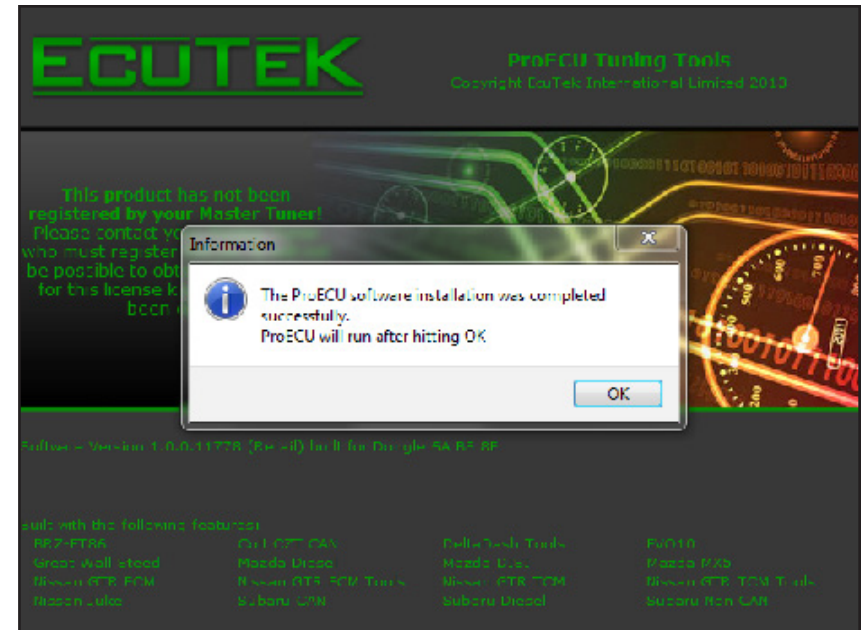

Fig. 1L
- M. Select [OK] to continue. Installation of the EcuTek ProECU software is now complete. See Fig. 1L